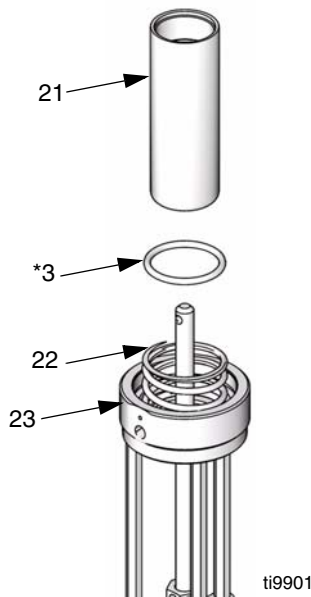

FIG. 15
- Slide air piston (21) out the top of the air motor base (23). Remove o-ring (3\*) from air motor base. Inspect all parts, including the spring (22) in the air motor base, for damage. See FIG. 15.